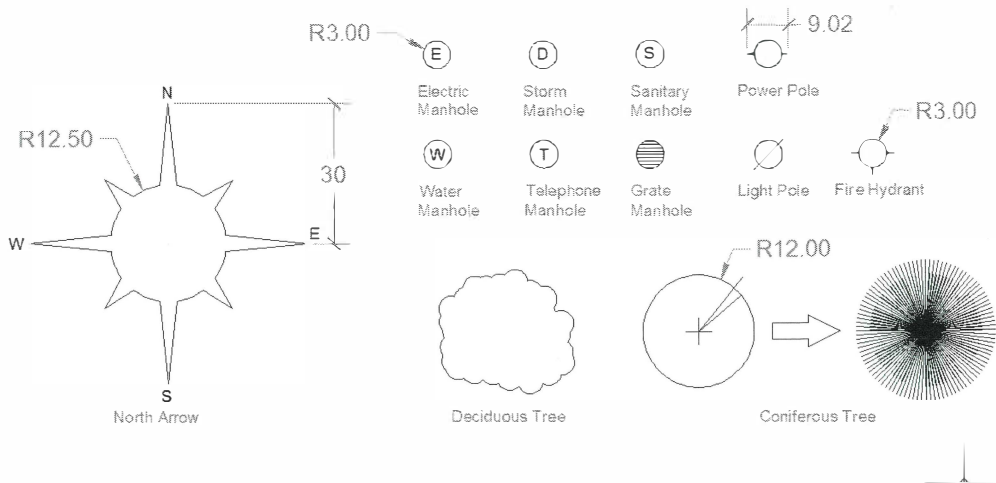

Figure 6-6
2. Pan to an empty part of the drawing and create the blocks shown in Figure 6-6. All of the objects should be drawn on layer **0**. Do not create the text captions and dimensions.